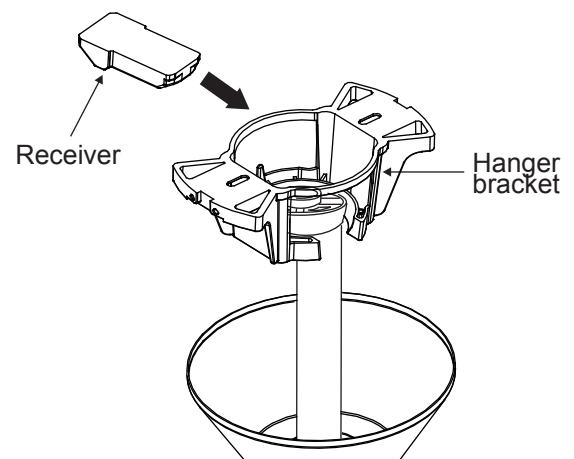

Fig. 13
**Step 1.** Insert the receiver into the ceiling mounting bracket with the flat side of the receiver facing the ceiling. (Fig. 13)